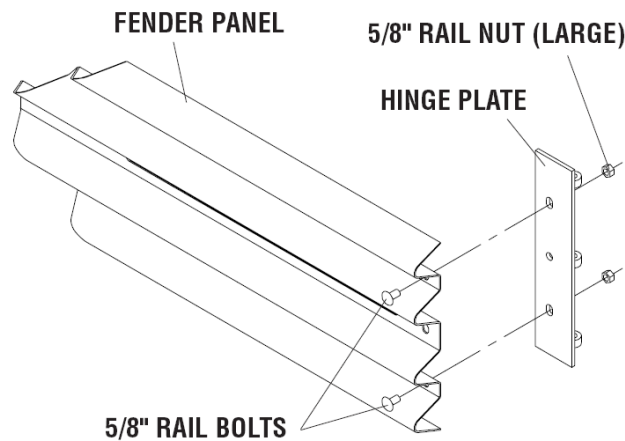

Figure 60
Attach Hinge Plate on each Fender Panel using two (2) 5/8" rail bolts and two (2) 5/8" rail nuts, using top and bottom holes only, leaving the center-hole open as shown in Figure 60.